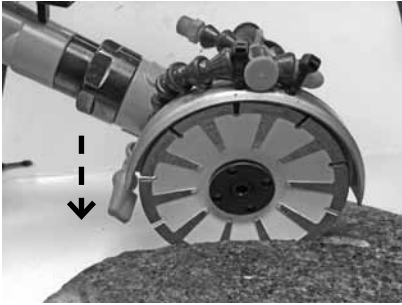

Figure 13
**NOTE:** *When using the PSG-125 for wet cutting and grinding, point the spray nozzle away from the spindle shaft and tool and down towards the cutting area as shown in Figure 13 & 14.*